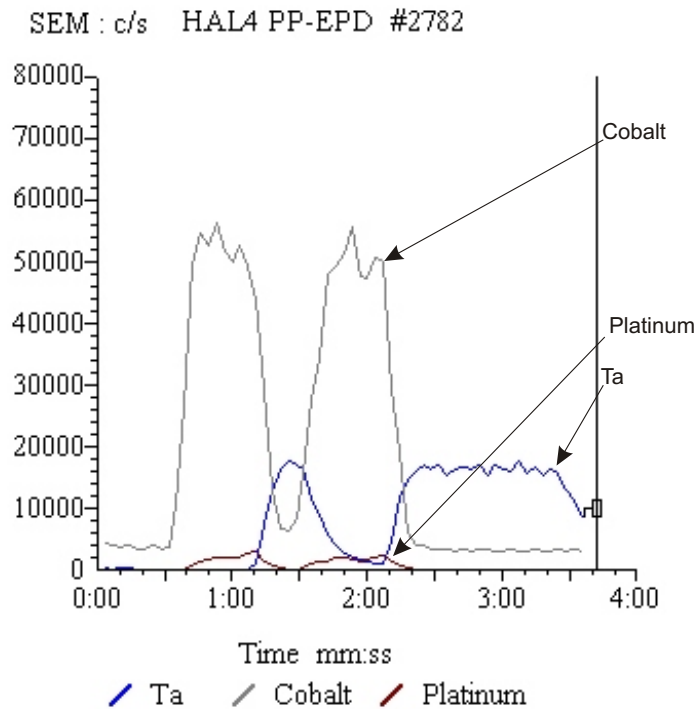

Figure 17 Method variables
- Examine the data to determine the desired endpoint. In the scan shown in Figure 17 it might be at the second Co / Ta interface.